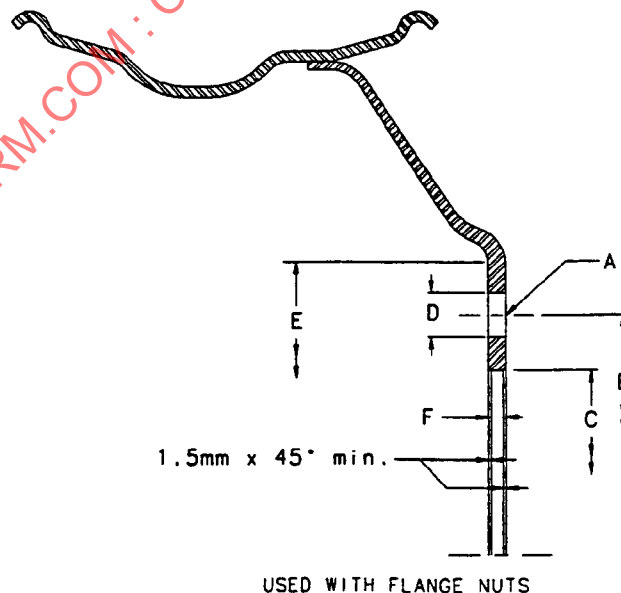

FIGURE 1—FERROUS DISC WHEEL
3. **Definitions**—A detailed listing of basic nomenclature is contained in SAE J393. Figures 1 to 13 introduce, illustrate, and specify additional nomenclature and definitions.
5.1.1 DEFINITIONS OF WHEEL DIMENSIONS—Reference Figures 1 and 2